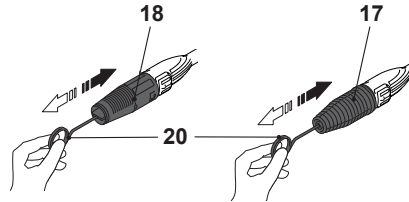

Fig. 28 (Rotary nozzle and Vario nozzle)
Remove any dirt deposits from the nozzle (17/18) hole using the cleaning needle (20) (Fig. 28).